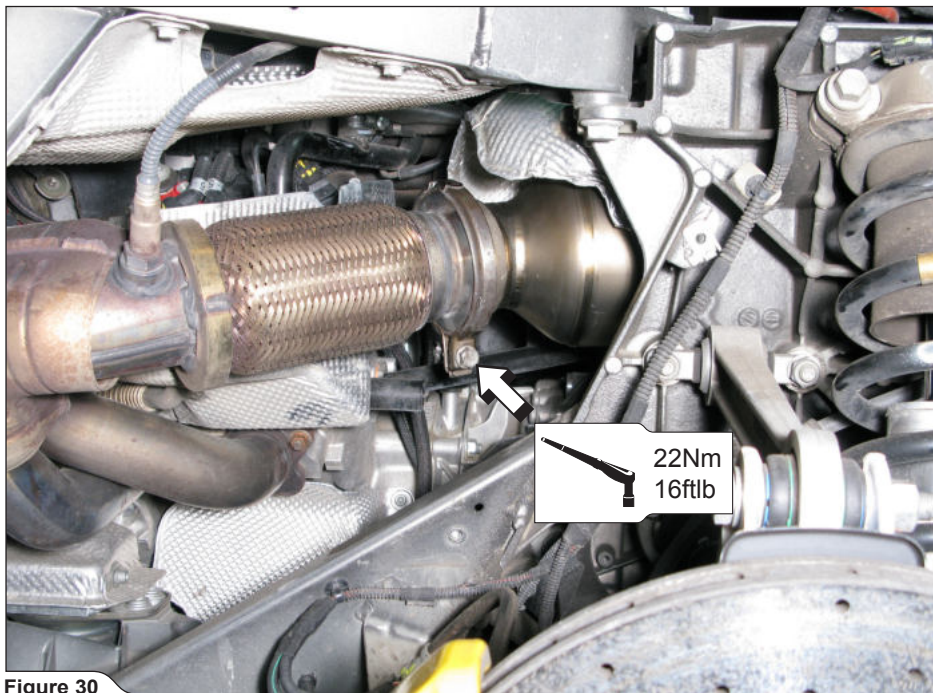

Figure 30
12. **For Slip-On and optional Link Pipes:** tighten the original spherical clamps on both sides of the engine to the specified torque (**Figure 30**).